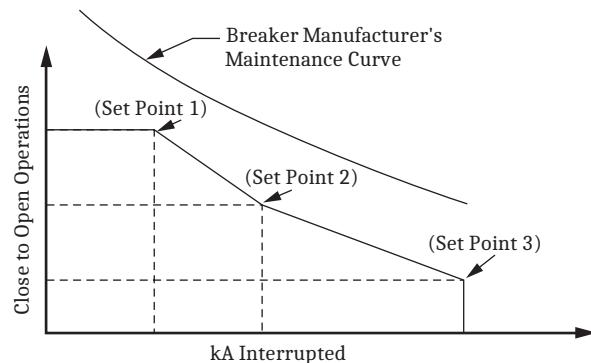

Figure 21 Breaker Contact Wear Curve and Settings
- Every time the breaker trips, the relay integrates interrupted current. When the result of this integration exceeds the threshold set by the breaker wear curve (*Figure 21*), the relay can alarm via an output contact or the optional front-panel display. With this information, you can schedule breaker maintenance in a timely, economical fashion.